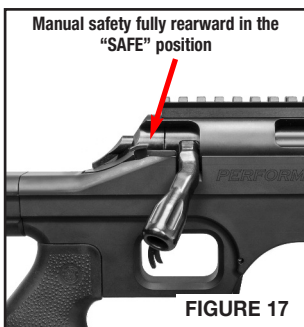

FIGURE 17
- Fully rearward - In the “SAFE” position (FIGURE 17).